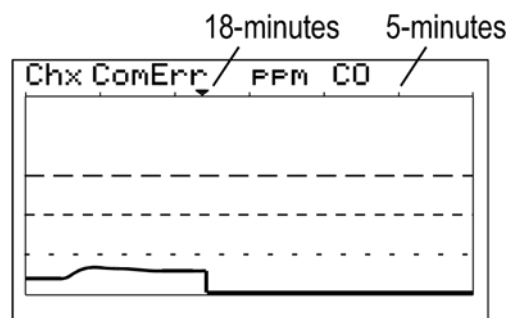

Figure 6-4 – Wireless Chx ComErr Screen
- Communications Error – Each channel’s 30-minute trend screens (Figure 6-4) are very useful for diagnosing wireless problems since it indicates amount of time since the most recent transmission was received. The down arrow on top of the trend screen resets to far right each time a transmission is received by that channel. When not in alarm, TXP-WTAs transmit each 5-minutes so the arrow should never progress past the 5-minute interval. The TXP-C40 activates the channel’s FAULT alarm and indicates ComErr if no transmission has been received in 18 consecutive minutes.